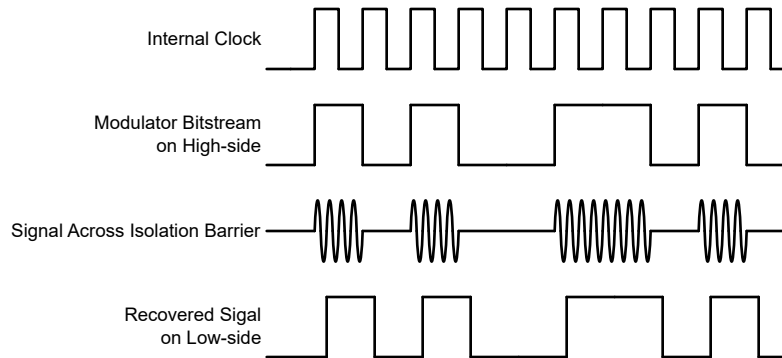

Figure 7-1. OOK-Based Modulation Scheme
The AMC1400-Q1 uses an on-off keying (OOK) modulation scheme, as shown in Figure 7-1, to transmit the modulator output bitstream across the SiO₂-based isolation barrier. The transmit driver (TX) shown in the Functional Block Diagram transmits an internally-generated, high-frequency carrier across the isolation barrier to represent a digital *one* and does not send a signal to represent a digital *zero*. The nominal frequency of the carrier used inside the AMC1400-Q1 is 480 MHz.